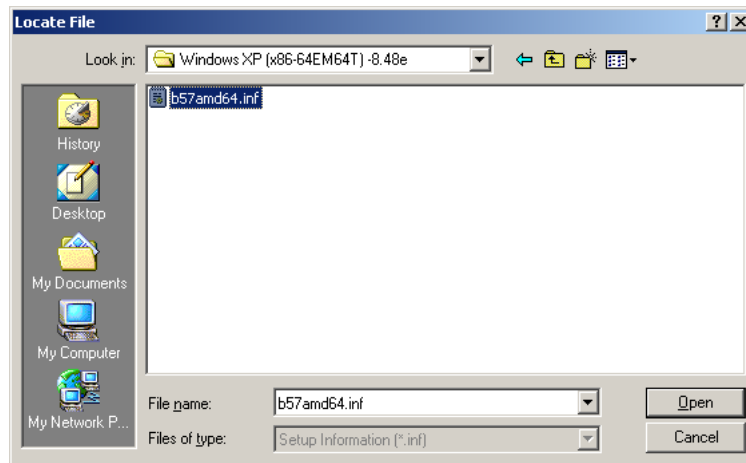

Figure 7-18: Location Browsing Window
Step 8: Select “**Specify a Location**” in the **Locate Driver Files** window (Figure 7-18).
Step 10: The **Locate File** window appears (Figure 7-18).